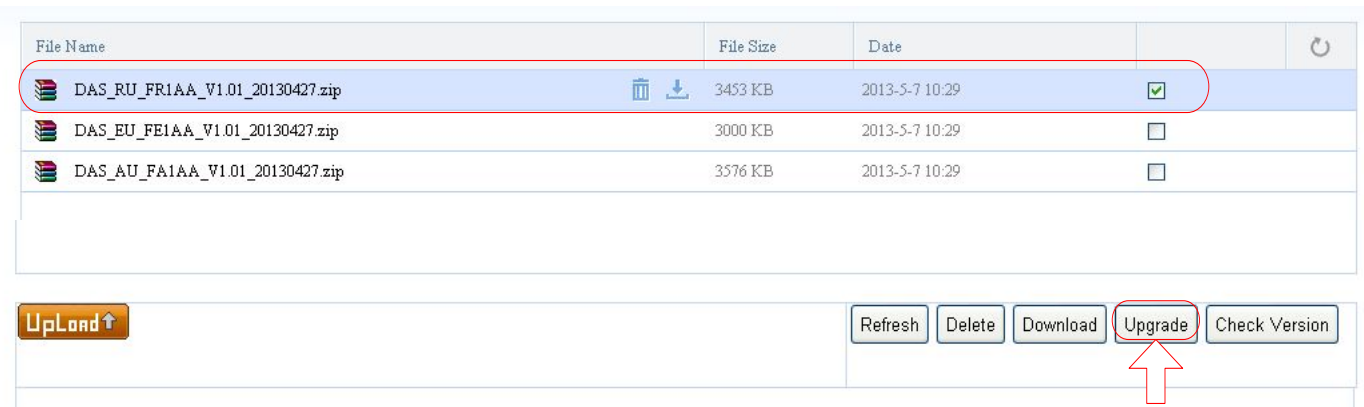

Figure 8-4 Software Upgrade Step 3
- When the software upload has completed successfully, select the file that was just uploaded and click the **Upgrade** button to complete the software upgrade, as shown in Figure 8-4 for an RU upgrade.